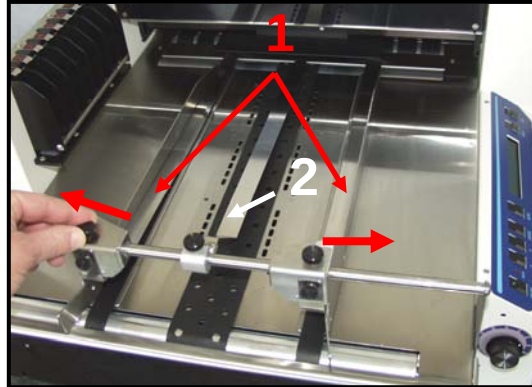

Figure 12
1. Loosen the Side Guide Securing Knobs and slide the Media Side Guides [1] apart, as shown in **Figure 12**. It is not necessary to move the Media Hold Down Strap [2].